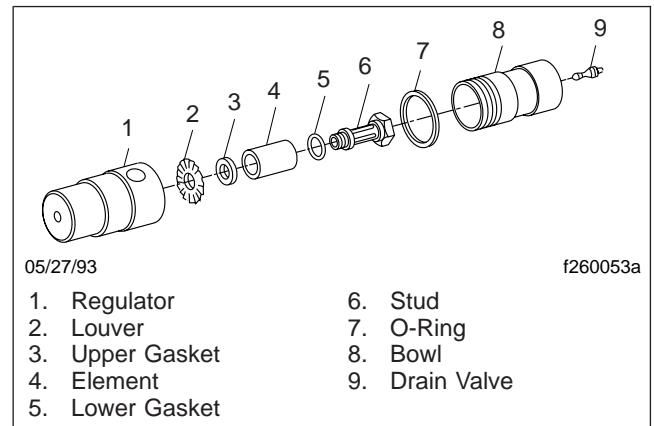

Fig. 11, Spicer Transmission Air Filter/Regulator Components
- Clean the outside of the air filter/regulator (Fig. 11) with cleaning solvent, then let it air dry.